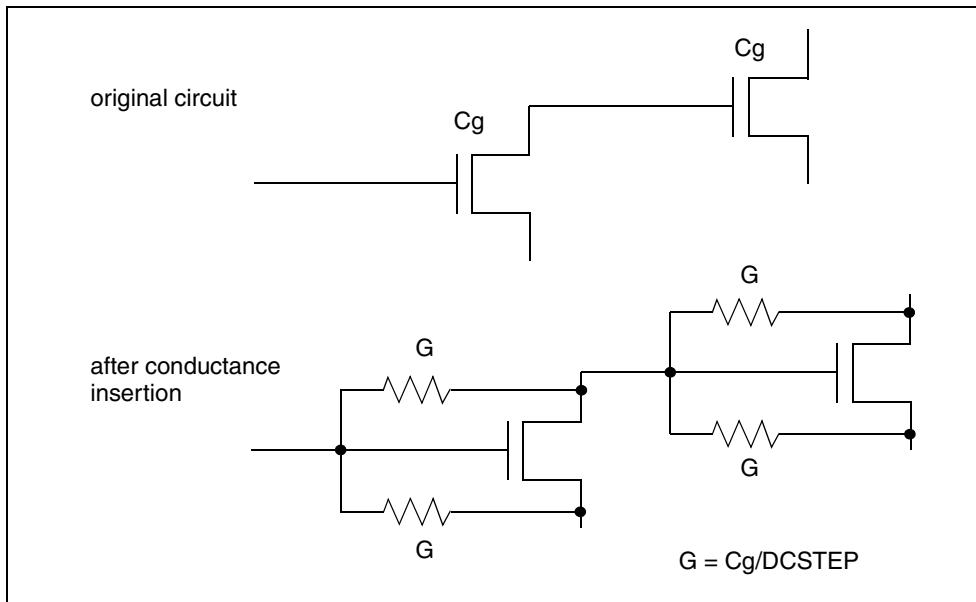

Figure 46 Conductance Insertion
In Figure 46 on page 475, HSPICE inserts conductance (G), in parallel with capacitance (C_g). This provides current paths around capacitances, in DC analysis.